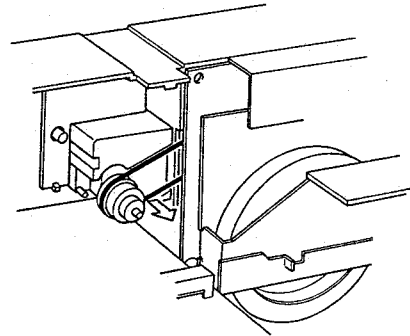

Fig. 15
5) Remove the counter belt. (See figure 15)